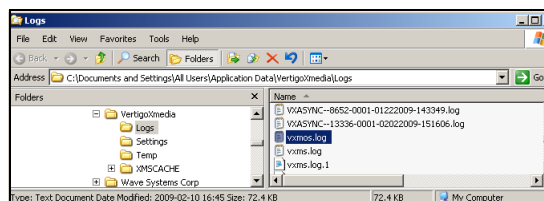

Figure 7-10. You can open the `vxmos.log` file from within the Windows Explorer window
4. There are two (2) ways of opening the MOS log file:
- Click the **EXPLORE LOG FOLDER** button. Windows Explorer opens to the **LOGS** folder that was specified in the **PATH** field (figure 7-10). Find and double-click the `vxmos.log` file. The `vxmos.log` file opens immediately in a Notepad window.